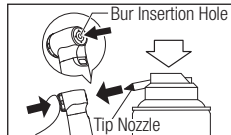

Fig. 14
- 2) Shake the can three or four times, then gently press in the push button to directly spray into the bur insertion hole (Fig. 14).